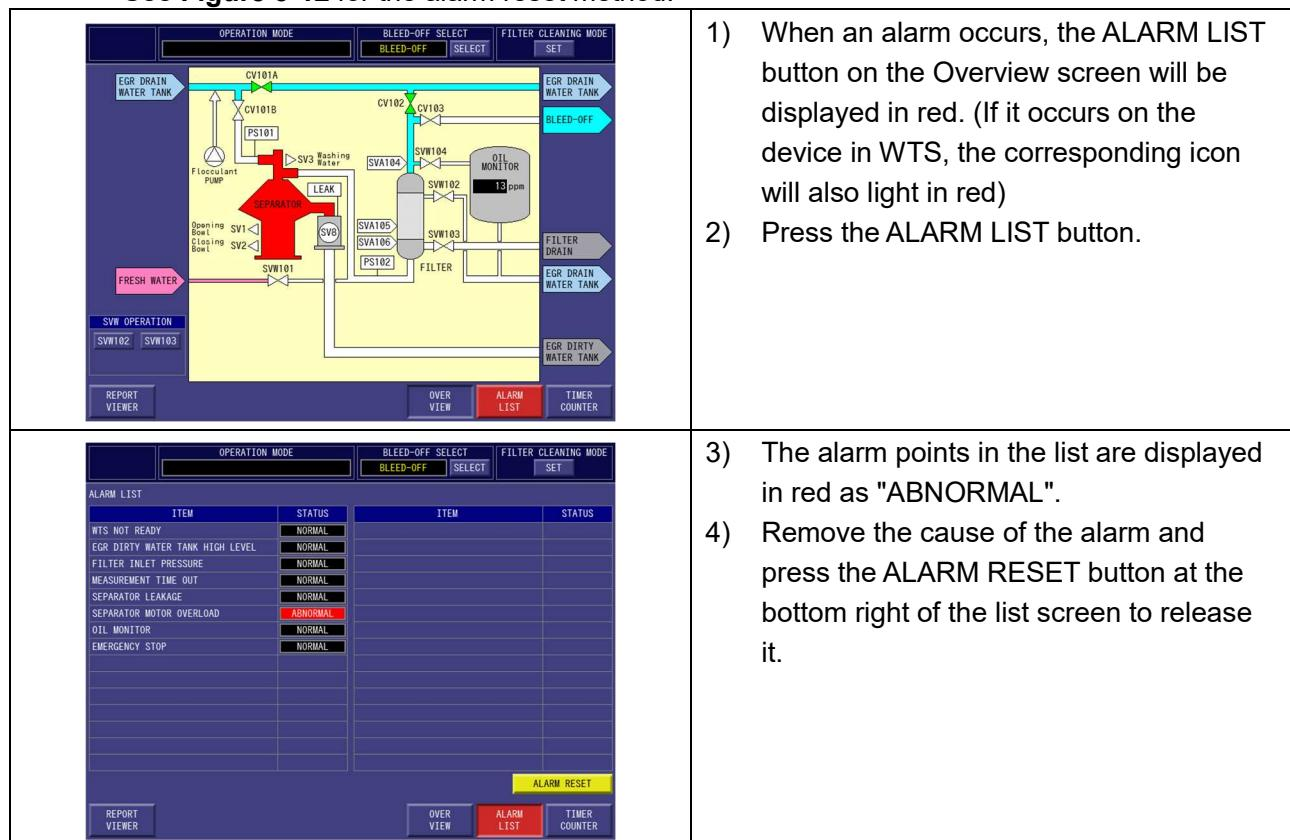

Figure 3-12 Alarm reset (ex. Separator overload)
② OVER VIEW button
- Return to the whole display screen of ①.
③ ALARM LIST screen switching button
- See Figure 3-12 for the alarm reset method.